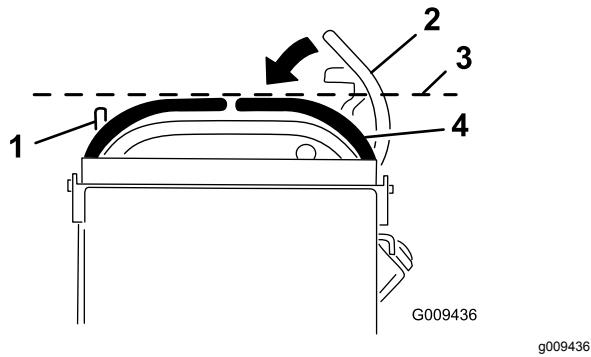

Figure 66
3. Push the right motion-control lever down out of the NEUTRAL-LOCK position (Figure 66).
4. Check if the right motion-control lever aligns horizontally with the left motion-control lever (Figure 66).